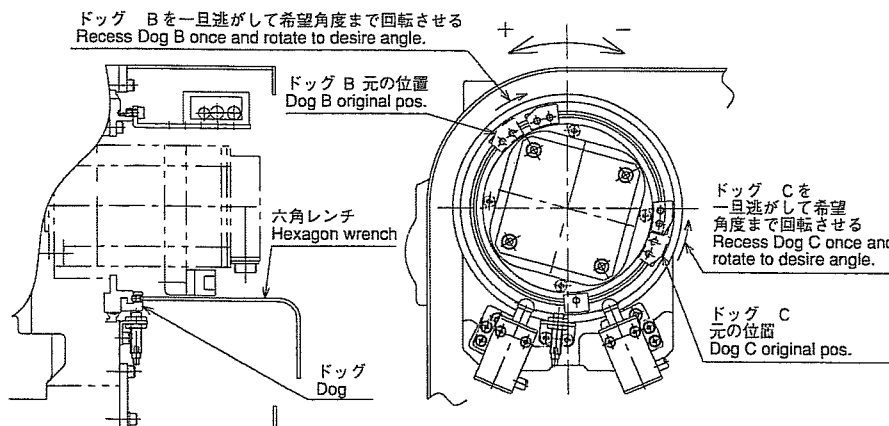

Fig. 11-2
(Fig.11-2 参照)
- 1) When the customer will change position of dog B② according to the shape of workpiece and jig, loosen hexagon socket head set screws which fix the dog and slide the dog B② counterclockwise (CCW) along the groove with the hexagon wrench still inserted in order to recess once. (See Fig.11-2.)
- 3) After rotating the rotary table to the desired tilting angle, insert the hexagon wrench in the dog B② and slide the dog B② in the reverse direction clockwise (CW) before fixing until the over-travel alarm lamp lights.
- 4) After fixing the dog B②, rotate the tilting axis again with the manual pulse generator or the JOG key and check that the tilting axis stops at the desired tilting angle position and alarm lamp lights.
according to the shape of workpiece and jig, loosen hexagon socket head set screws which fix the dog and slide the dog C③ clockwise (CW) along the groove with the hexagon wrench still inserted in order to recess once. (See Fig.11-2.)
- 3) After rotating the rotary table to the desired tilting angle, insert the hexagon wrench in the dog C③ and slide the dog C ③ in the reverse direction counterclockwise (CCW) before fixing until the over-travel alarm lamp lights.
- 4) After fixing the dog C③, rotate the tilting axis again with the manual pulse generator or the JOG key and check that the tilting axis stops at the desired tilting angle position and alarm lamp lights.